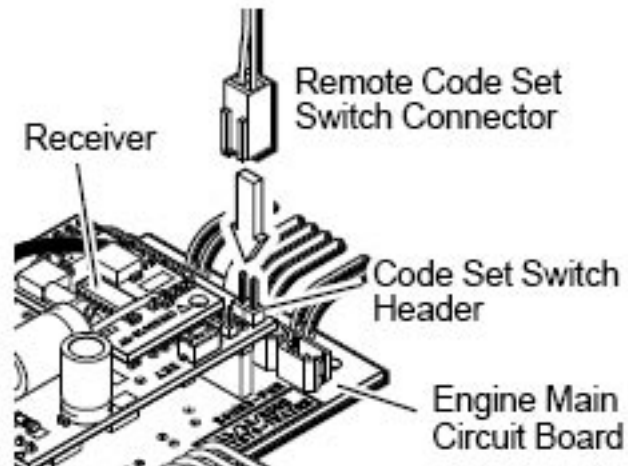

Figure 10.
- 6) **ATTACH THE REMOTE CODE CONNECTOR** on the Remote Code Switch to the two pin header on the receiver as shown in Figure 10.